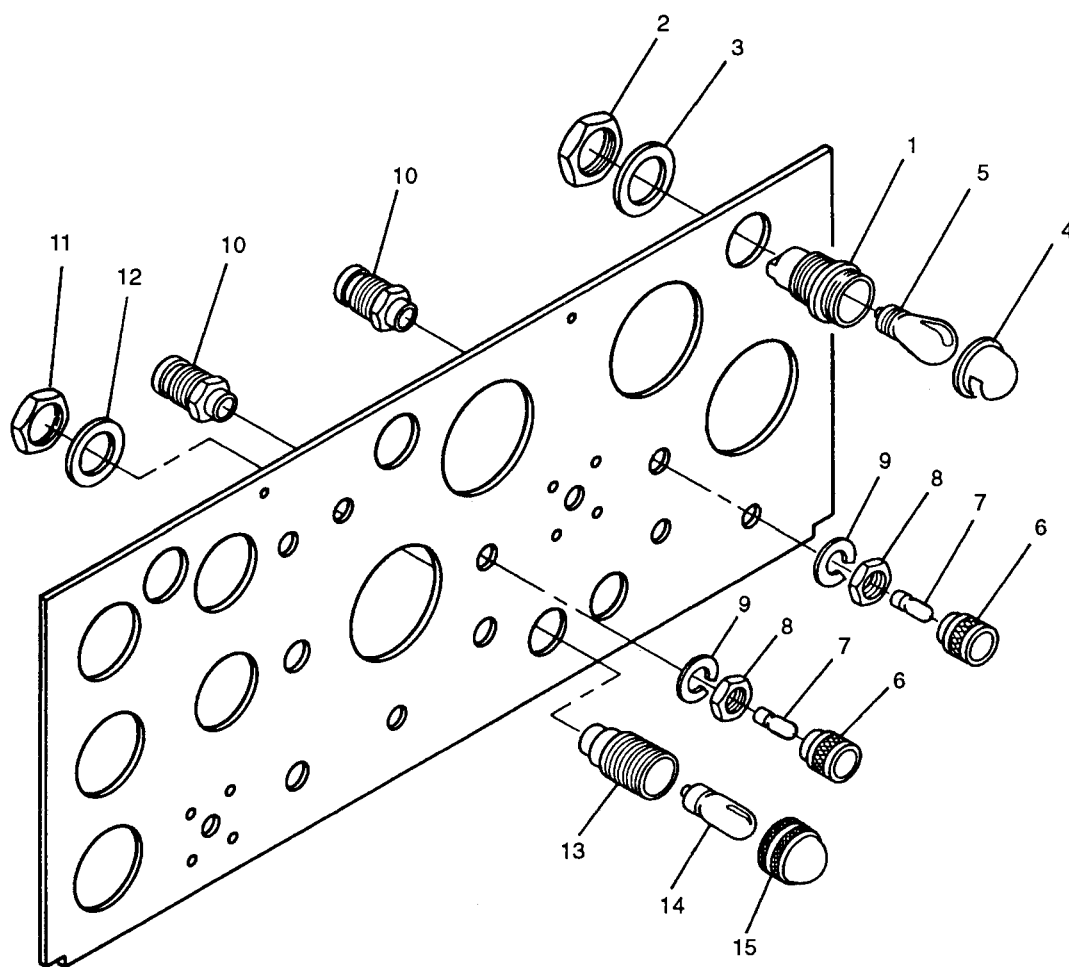

FIGURE 2-11. Control Panel Lights
- d. Tag and disconnect panel light (1, FIGURE 2-11) electrical leads.
- e. Remove nut (2) and washer (3).
- f. Remove panel light (1) from control panel.
- a. Remove panel light directional cap (4, FIGURE 2-11) from panel light housing (1).
- b. Remove panel light bulb (5).
- a. Install panel light bulb (5, FIGURE 2-11) into panel light housing (1).
- b. Install panel light directional cap (4).
- a. Insert panel light (1, FIGURE 2-11) into control panel.
- b. Install washer (3) and nut (2).
- b. Press in lamp holders (6, FIGURE 2-11) and check that lamps are lit.
- c. If lamp (7) fails to light perform steps d through g.
- e. Set multimeter for DC volts and check for voltage at terminals 1 and 3 on light receptacle (10).
- d. Tag and disconnect electrical leads to light receptacles (10, FIGURE 2-11).
- e. Remove lamp holders (6), nuts (8), lockwashers (9), and light receptacles (10) from control panel.
- f. If necessary, remove lamps (7) from lamp holders (6).
- a. Install press to test light receptacles (10, FIGURE 2-11) in control panel with lockwashers (9) and nuts (8).
- b. If removed, install lamps (7) in lamp holders (6).
- c. Install lamp holders (6) on light receptacles (10).
- d. Tag and disconnect synchronizing lights (13, FIGURE 2-11) electrical connections.
- e. Remove nuts (11) and washers (12).
- f. Remove synchronizing lights (13) from control panel.
- g. Unscrew lenses (14) and remove lamps (15) from light receptacles (13).
- a. Insert synchronizing lights (13, FIGURE 2-11) into control panel.
- b. Install washers (12) and nuts (11).
- e. Install lamps (15) and screw lenses (14) on light receptacles (13).